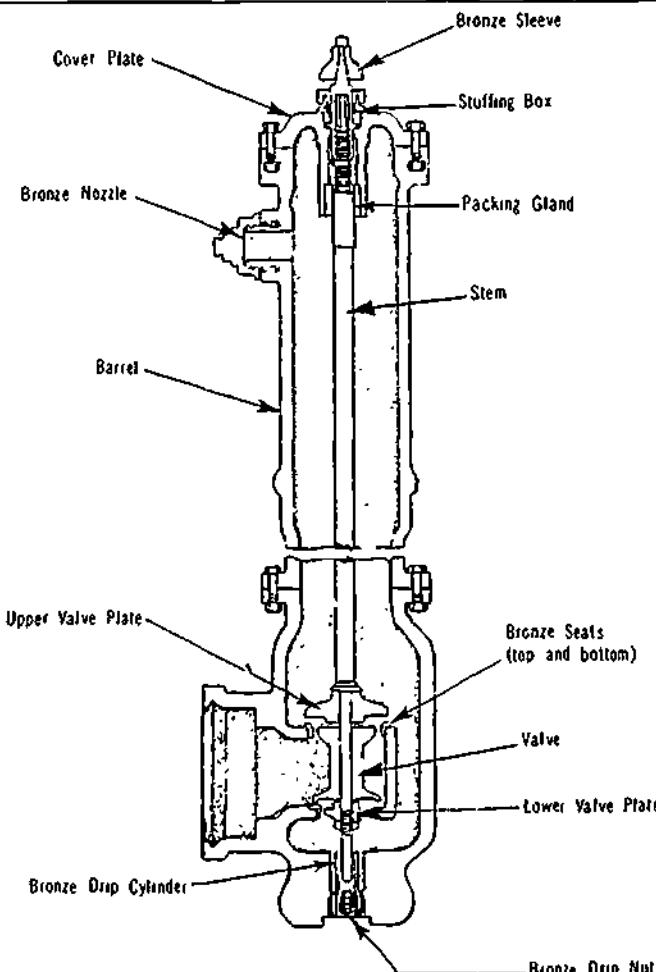

Figure 28-3. Gate-Type Hydrant
b) To disassemble a gate-type hydrant (Figure 28-3) shut off the water, open the hydrant a few turns, unbolt and remove the weather cap. Unbolt the cover plate and lift it and the packing gland as a unit. Lift out the valve mechanism and operating stem as a unit and re-assemble as a unit. Re-assemble hydrant in reverse order.